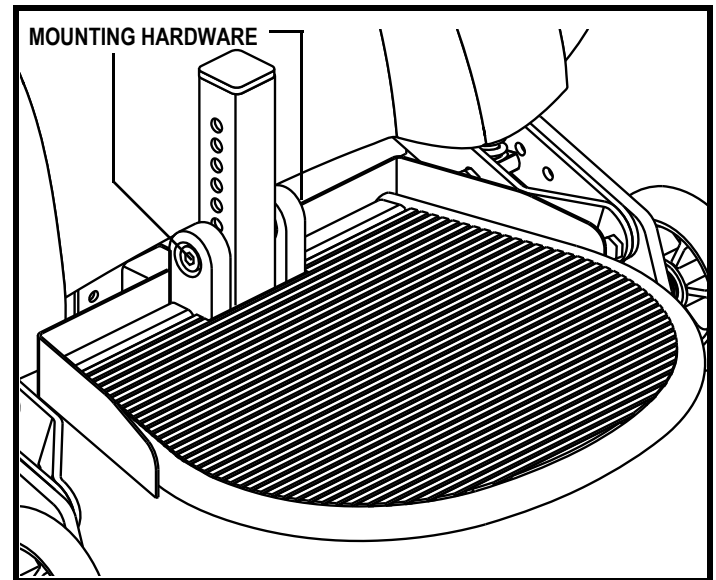

Figure 19. Foot Platform Height Adjustment
1. Use a hex key to remove the mounting hardware from the foot platform. See figure 19.